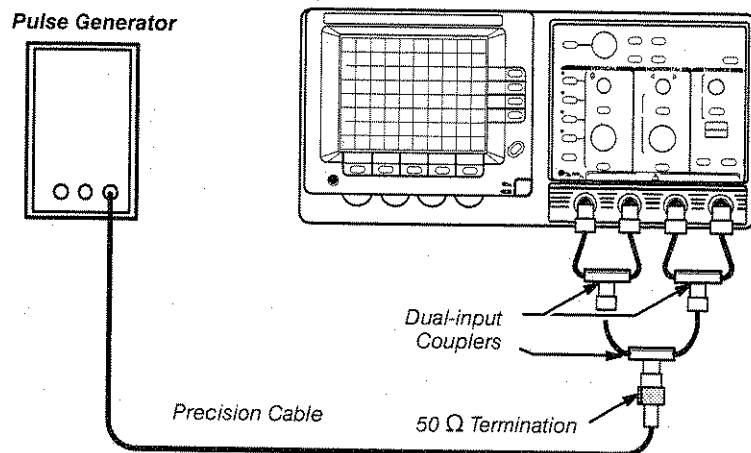

Figure 7-12: Attenuator Compensation Test Setup
2. Connect the high amplitude output of the pulse generator to the **CH 1**, **CH 2**, **CH 3**, and **CH 4** inputs as shown in Figure 7-12.